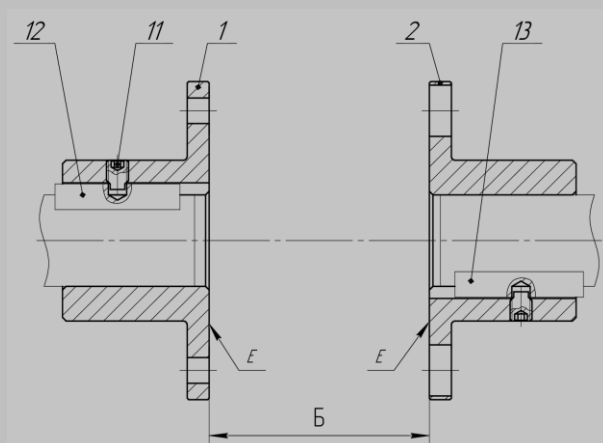

Figure 3
5.1.4. The key-way in the motor hub **1, 2** must be carried out so it is located opposite the one of the hub installation holes in the hub. The relative position of parts at initial assembly is fixed by marks. In the motor hub make a threaded hole for screw **11 (Fig.3)** intended to fix possible axial displacements of the motor-hub. The hole must be located opposite the hub key-way.
5.2.9. Fix hub **1** with screw **11** on the motor shaft in the axial direction. The end of the shaft should go beyond the end surface of hub **1** (**Fig. 3**).